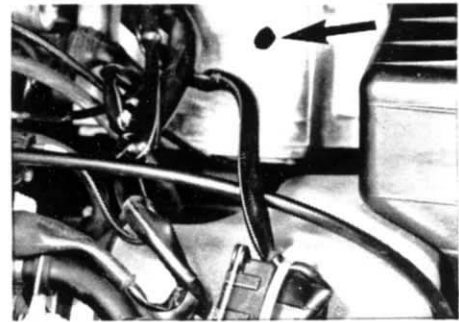

Figure 8
10. Mark air flow meter with a black paint dot as shown in Figure 8.